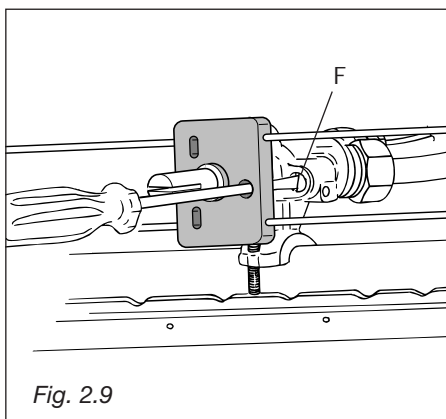

Fig. 2.9
- With a thin screwdriver pass by the hole of microswitch and turn the screw **F** until adjustment is correct (fig. 2.9).